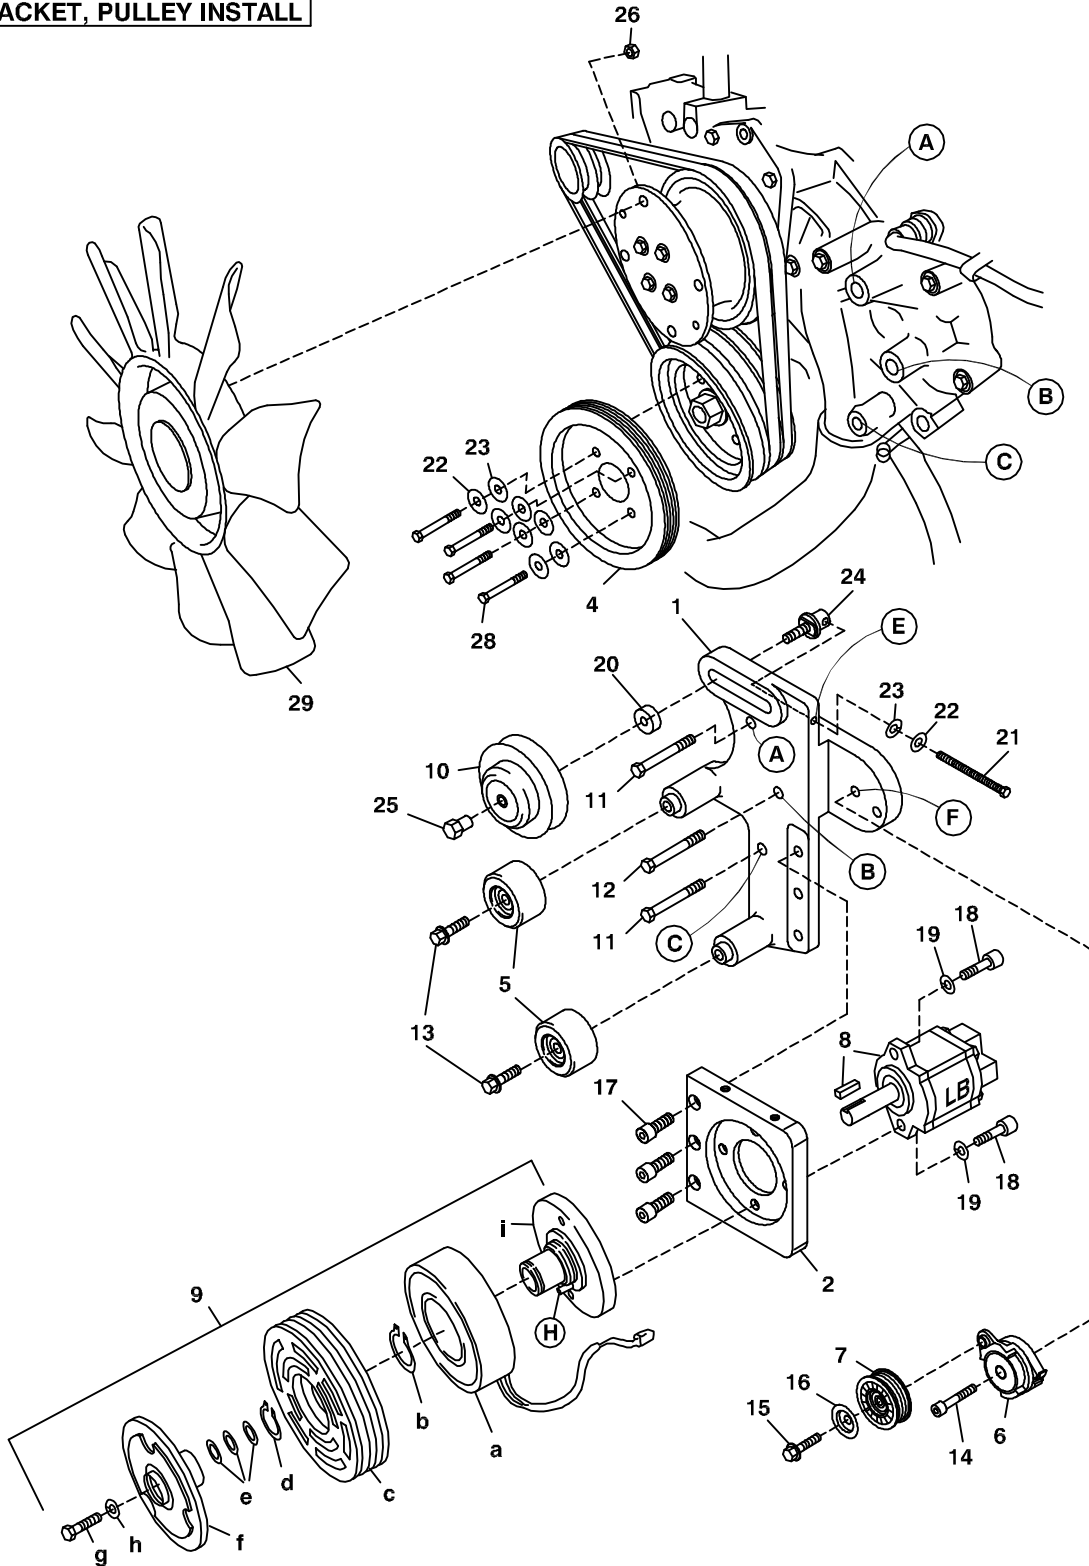

FIG. 3
4. Remove the OEM top fan shroud. Unbolt the fan by loosening four nuts (26). Lift out the fan.
5. Remove the lower shroud from the radiator. Cut out the section from the shroud as shown in Fig. 3. Remove both the outer and inner walls. Hold the filler plate (3) inside the cutout in the front of the shroud. Mark the two hole locations in the plate onto the shroud. Drill holes with a 3/16" drill. Attach the plate to the shroud with the two 10-24 x 1/2 screws (30) and two 10-24 lock nuts (31). Mount the lower shroud back on the radiator.
6. Attach the crankshaft pulley (4) to the crankshaft damper with four M8 x 60 bolts (28), four 5/16 lock washers (22) and four 5/16 flat washers (23).
7. Loosen the air conditioner tensioner adjusting bolt (21). Remove the air conditioner belt. Remove the OEM tensioner bracket from the engine. Disassemble the individual pieces from the tensioner.
8. Bolt the engine bracket onto the engine at locations A and C with the M10 x 30 bolt (11). Thread the M10 x 45 (12) bolt into location B.
9. Reassemble the A/C tensioner parts in the DewEze engine bracket (1): Hold the idler hub (24) in the cavity in the rear, lining up the flat spots on the shoulder so they fit in the slot. Place the lock washer (22) and the flat washer (23) on the long adjusting bolt (21), insert through the hole in the edge of the bracket at location E, and thread into the idler hub. Place the spacer (20) on the front of the hub. Insert the nut (25) into the center of the idler (10) and thread onto the hub and tighten. Replace the OEM air conditioner belt and adjust.
10. Mount the two idlers (5) onto the bosses on the engine bracket using the two 7/16 x 1 3/16 flange head bolts (13).
11. Hold pump (8) onto back of mounting plate (2) and clutch hub (9i) onto front of mounting plate, making sure clutch wire and anti-rotation pin (H) on front of hub is on the top. Use the mounting holes as shown so the pump is oriented vertically. Place two 3/8 x 1 1/4 socket head bolts (18) with 3/8 high collar lock washers (19) through pump, through mounting plate and thread into hub.
12. Slide coil (9a) over hub, aligning hole in the back plate of coil with the anti-rotation pin (H) in the hub. The wires from the coil should be on the same side as the pin (H). Install large snap ring (9b) to hold coil in place.